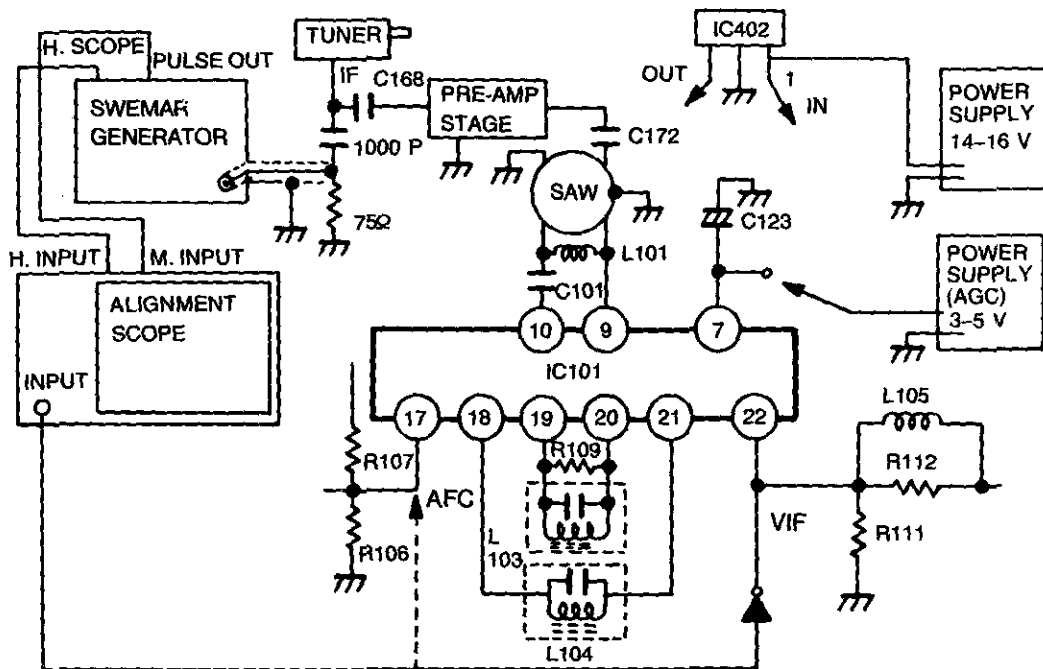

Figure 9
PRELIMINARY STEPS (See figure 9)
- (1) Connect the output of the SWEEP MARKER GENERATOR to the output terminals of Tuner (IF OUT or SAW FILTER) as shown in figure 9.
- (2) Couple the H-scope terminal of the swemar generator to the H-input terminal of the alignment scope terminal and the pulse out terminal to marker input terminal.
- (3) Apply the detected output from the pin 22 of IC101 in the main PCB assembly to the input terminal of the alignment scope.
- (4) Apply A.G.C. voltage to the pin 7 of IC101. (about 4.5 ± 0.5 V)
- (5) Apply 16 V D.C. to the pin 1 of connector IC402.